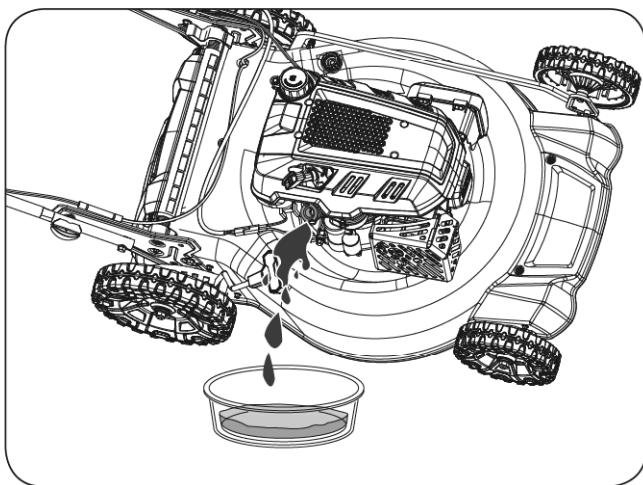

Figure 36
4. Tip the machine onto its side (so that the air filter is up) to drain the used oil from the oil-fill tube. (See **Figure 36**)